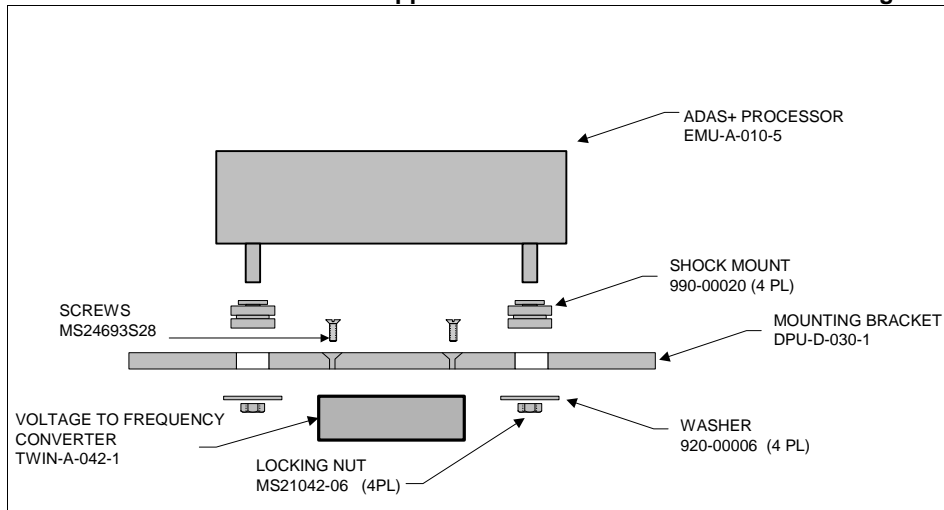

Figure C- 2: System Processor to Bracket Mounting
- ❑ 010 Assemble the system processor and P&W Engine Services Voltage to Frequency Converter (if used) to the mounting bracket as shown in Figure C- 2 and test fit in a convenient location within the avionics compartment. When the P&W Engine Services Voltage to Frequency Converter is used, the four mounting screws should be secured using Loctite® Blue or equivalent.